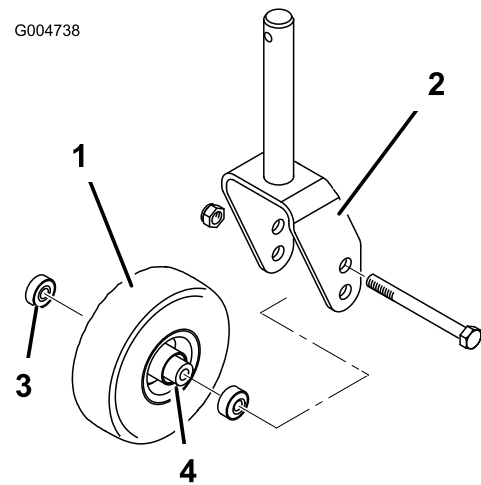
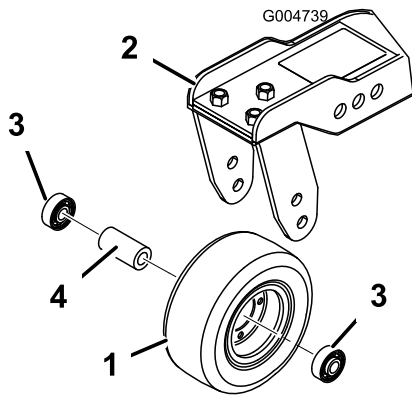

Figure 88
Figure 89
1. Remove the locknut from the bolt holding the castor wheel assembly between the castor fork (Figure 88) or the castor pivot arm (Figure 89). Grasp the castor wheel and slide the bolt out of the fork or pivot arm.
2. Remove the bearing from the wheel hub and allow the bearing spacer to fall out (Figure 88 and Figure 89). Remove the bearing from the opposite side of the wheel hub.